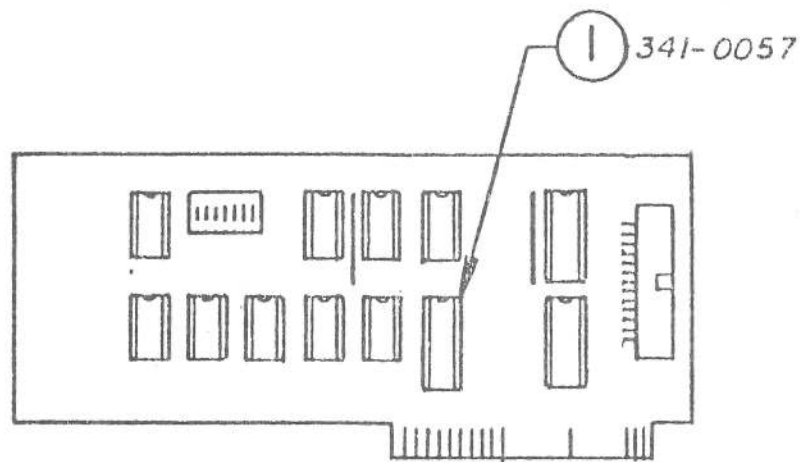

FIGURE 6
IPL.7	Parallel Printer Board (Figure 6)
□ PARALLEL PRINTER BOARD (Figure 6)